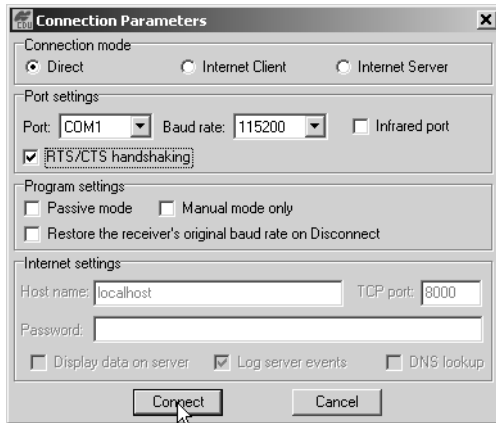

Figure 4-2. Connection Parameters – RTS/CTS Handshaking
2. On the Connection Parameters dialog box, enable RTS/CTS handshaking (Figure 4-2).